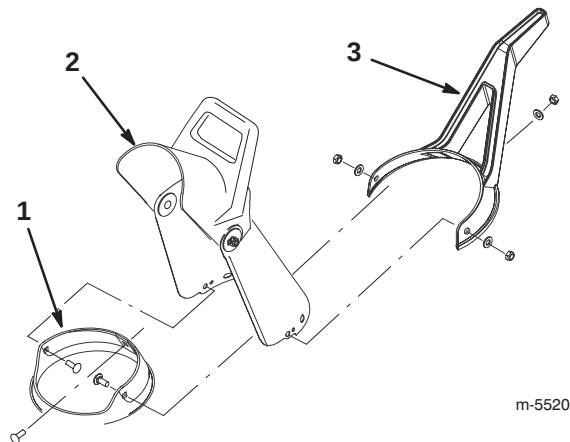

Figure 10
1. Place the discharge chute over the chute ring, and align the hole in the back of the discharge chute with the center hole in the chute ring (Fig. 10).
2. Insert a screw through the center hole of the chute ring from the inside and through the hole in the discharge chute (Fig. 10).
3. Insert the chute handle over the discharge chute, and fully insert the screw through the center hole in the chute handle (Fig. 10).